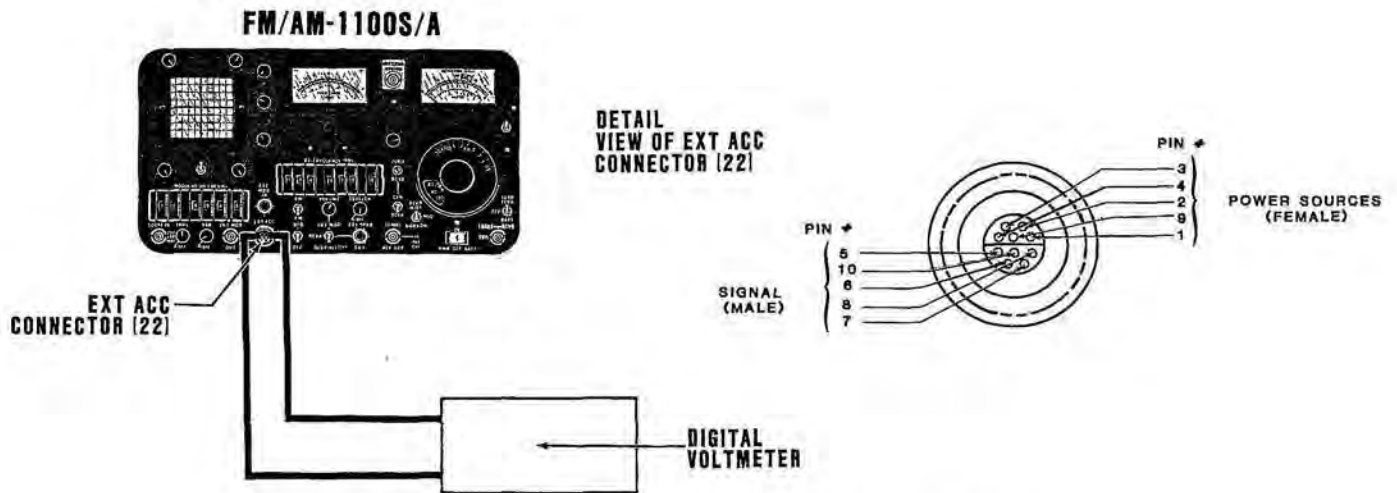

Figure 3-46 Power Supply Voltage Check
4. Connect negative lead of voltmeter to Pin 9 (ground) of front panel EXT ACC Connector (22). (See Figure 3-46.)
5. Connect positive lead of voltmeter to Pin 1 of EXT ACC Connector (22). Verify voltmeter reading is between +12 V and +12.5 V.
6. Disconnect positive lead of voltmeter from Pin 1 of EXT ACC Connector (22) and reconnect to Pin 2. Verify voltmeter reading is between +10.85 V and +11.15 V.
7. Disconnect positive lead of voltmeter from Pin 2 of EXT ACC Connector (22) and reconnect to Pin 3. Verify voltmeter reading is between +4.75 V and +5.2 V.
8. Disconnect positive and negative voltmeter leads from EXT ACC Connector (22).
9. To check battery charger circuit without load, disconnect battery connector P8104. Depress and hold AUTO ZERO/OFF/BATT Switch (8) to "BATT"; verify battery voltage is 14 to 15 VDC as displayed on upper scale of DEVIATION/WATTS Meter (1). Reconnect battery connector.
10. Verify HIGH Frequency Phase LOCK Lamp (42) is illuminated.